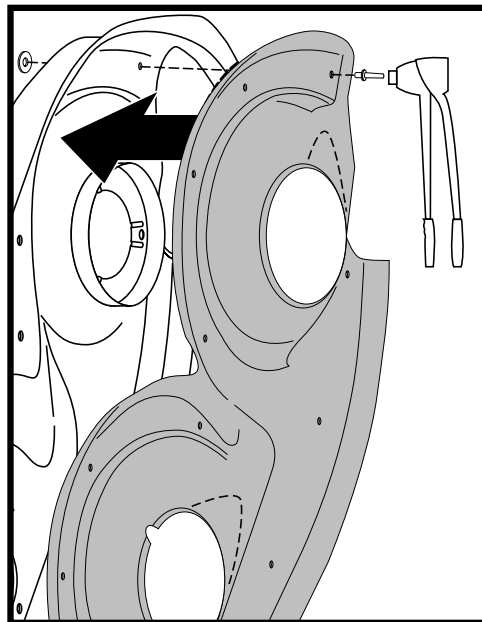

FIG. 2
9. Turn deck on its side and install steel rivets and washers provided using a standard rivet gun. See FIG. 2.